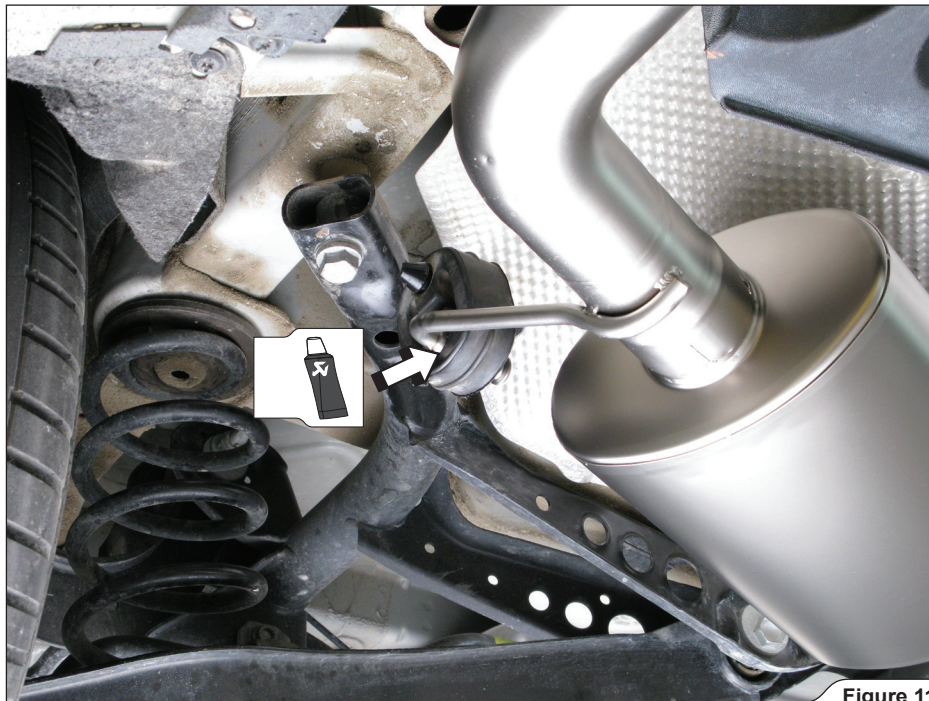

Figure 11
4. **For Slip-On and optional Link-Pipe:** hang the muffler on stock rubber bracket, as shown (Figure 11).